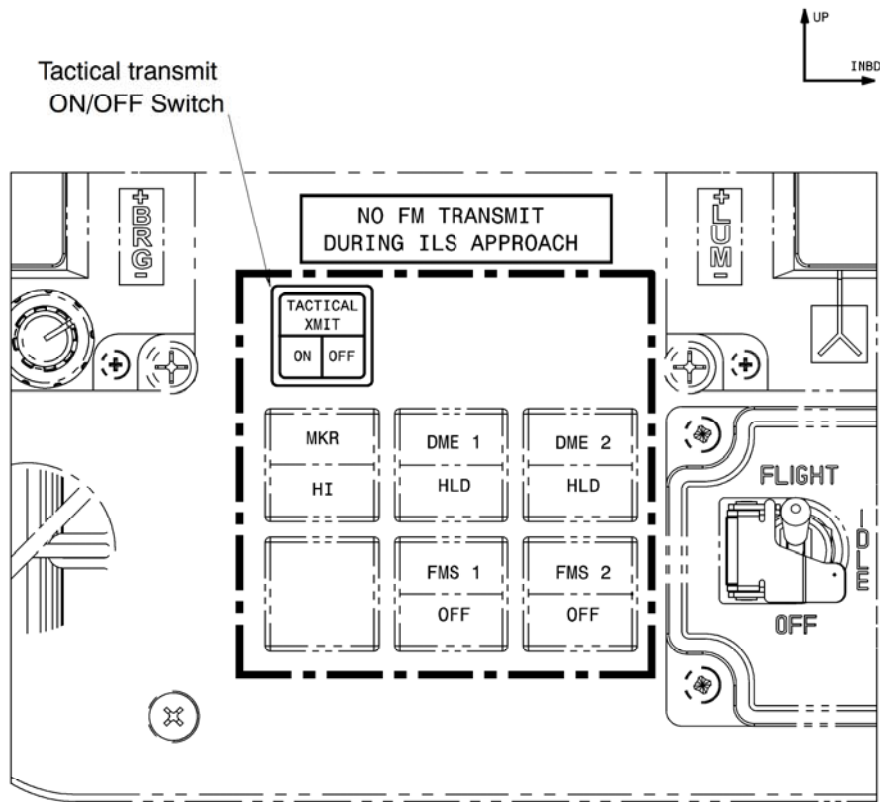

Figure 1 TDFM-9100NV Transceiver on centre console
- A. The Technisonic Tactical Radio Installation provides a means of FM radio communication. The TDFM-9100NV Transceiver (see Figure 1) is installed in the centre console, accessible to the pilot and co-pilot. The relevant FM frequency bands are listed in Table 1. A remote control head (RC-9100NV) is installed in the cabin ceiling panel. An inhibit switch is located on the instrument panel to stop transmission during certain phases of flight. Two antennas are used, one on the tail boom, and one on the cabin roof, right hand side. Two circuit breakers are located in the overhead panel, one for TDFM-9100NV Transceiver, and one for the RC-9100NV Remote Control.
The TDFM-9100NV, located in the centre console, is powered ON by pressing and holding the POWER knob until the display lights up. The knob is also a multi-function rotary knob/button that controls volume, channel, zone and NumLock depending on band selected by pressing the BAND key. Press the knob to select channel and volume. Refer to Figure 1. For information on operating the TDFM-9100NV, refer to the "Technisonic Industries Limited" Operating Instructions, Document Number 13RE482, Rev. E, dated August 2019 (or latest version).